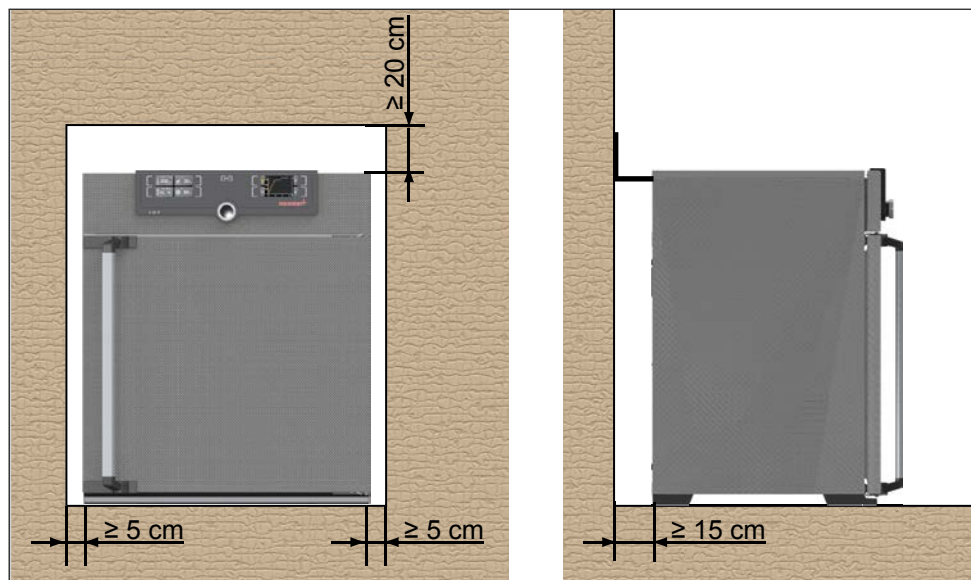

Fig. 9 Minimum clearance from walls and ceiling
The distance between the wall and the rear of the appliance must be at least 15 cm. The clearance from the ceiling must not be less than 20 cm and the side clearance from walls or nearby appliances must not be less than 5 cm (Fig. 9). Sufficient air circulation in the vicinity of the appliance must be guaranteed at all times.
2. Bend the tilt protection upwards by  $90^\circ$  in the desired distance to the wall (consider the minimum distance to the wall, see Fig. 9).